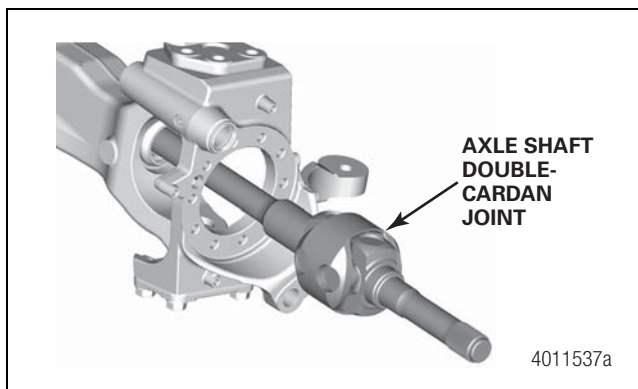

Figure 4.31
1. Remove the axle shaft double-cardan joint assembly from the carrier housing by pulling the assembly STRAIGHT out of the carrier housing. Do not disassemble the joints, which will void the Meritor warranty. Figure 4.31.